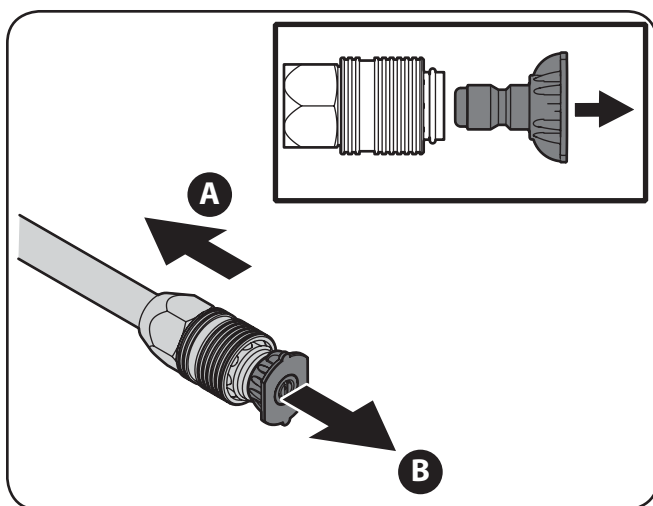

Figure 3-8
- To remove a spray nozzle, simply pull back on the spray gun collar (A) in Figure 3-8.